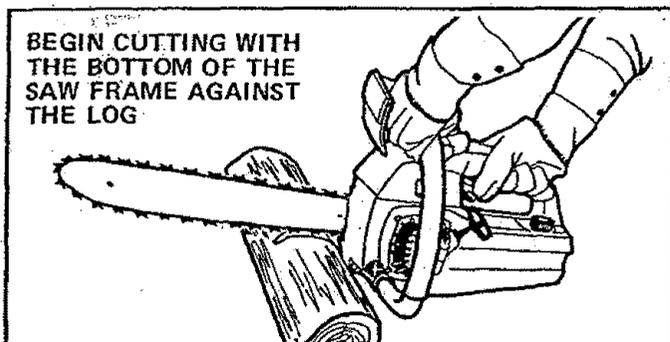

Figure 29
- b. Begin cutting with the bottom of the saw frame against the log. Figure 29.